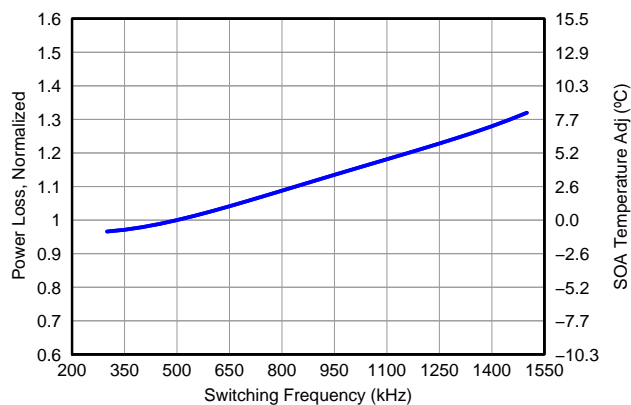

Figure 6. Normalized Power Loss vs Switching Frequency
- Normalized Power Loss for switching frequency ≈ 1.17 (Figure 6)
- SOA adjustment for switching frequency $\approx 4.1^\circ\text{C}$ (Figure 6)